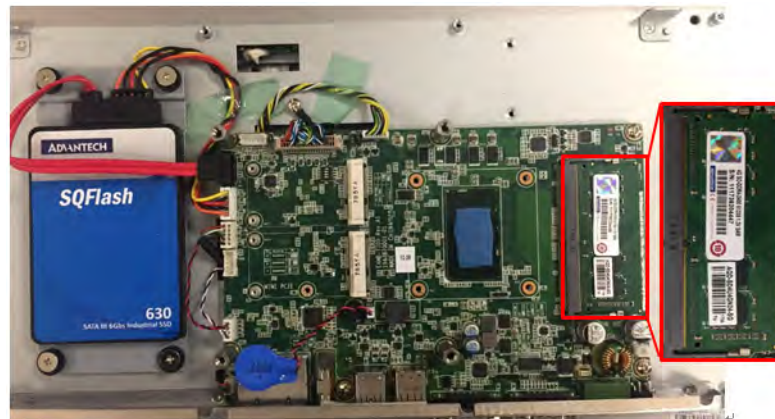
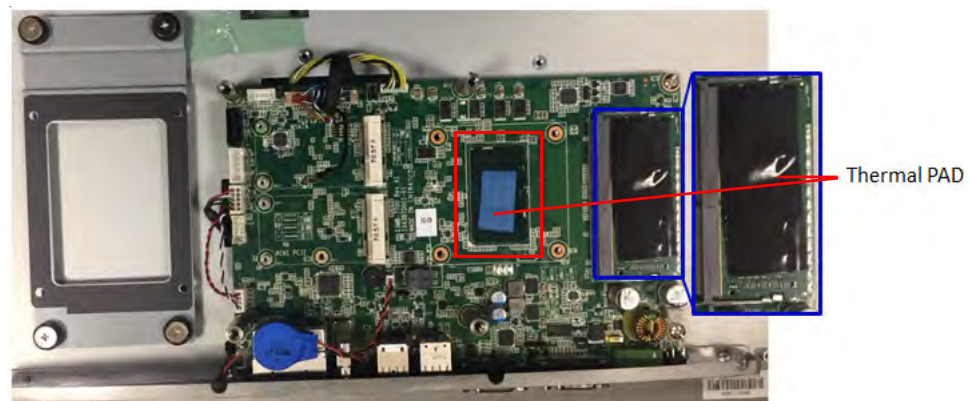

Figure 2.5 Memory card installation
Figure 2.6 Thermal pad placed on the memory card
2. Insert the memory card into the corresponding slot on the main board (see the area marked in red in Figure 2.5). Then place the memory thermal pad provided in the accessory box on top of the memory card (Figure 2.6).
Warning! *Ensure that the thermal pad (provided in the accessory box) is placed on top of the CPU & memory card, as shown in Figure 2.6.*
*Assurez-vous que le tampon thermique (fourni dans la boîte d'accessoires) est placé sur la carte mémoire, comme illustré à la Figure 2.6.*